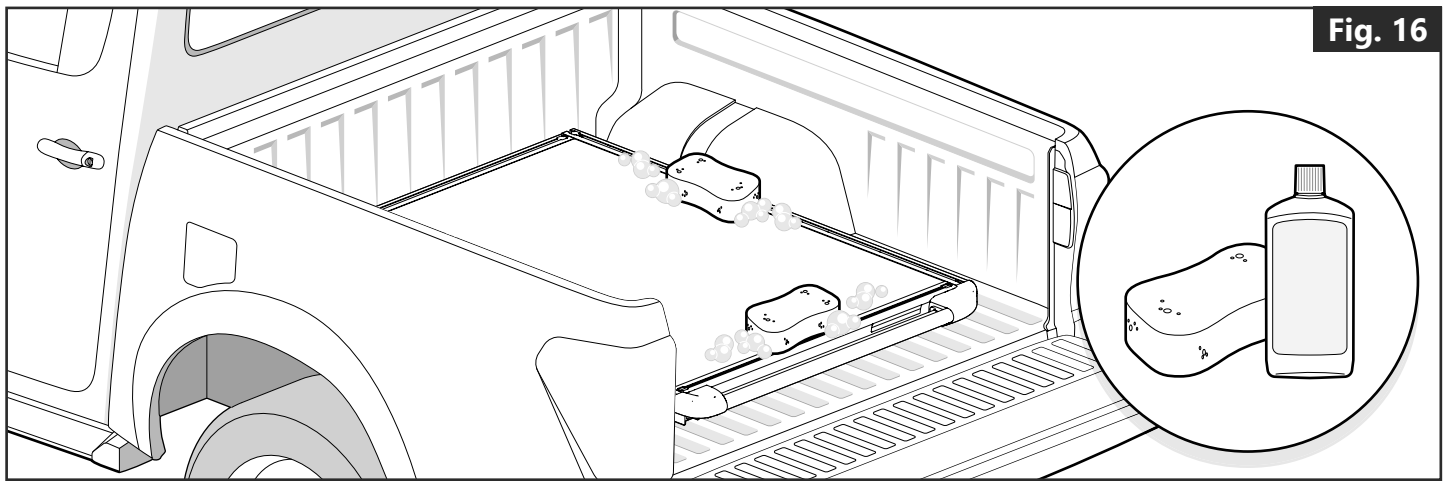
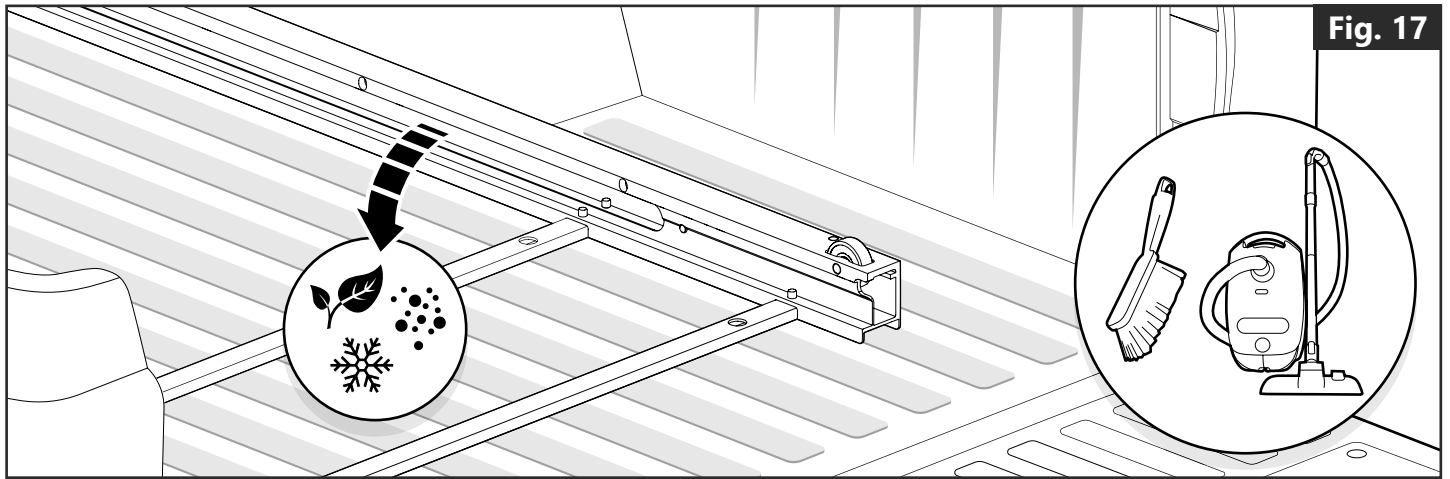

Fig. 16
Fig. 17
- The Mountain Top Slide™ should be cleaned on a regular basis using water with normal car shampoo. **(Fig. 16)**
- Clean the base frame rails regularly. For optimal cleaning, remove the deck from the base frame. Refer to section (4) for proper detachment of the deck.
- Use a brush or vacuum cleaner to remove debris. **(Fig. 17)**